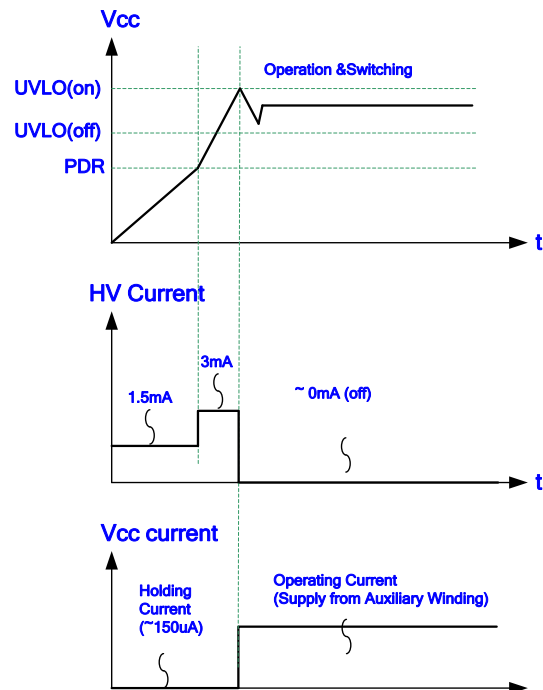

Fig 16.
Please refer to Fig 16. If VCC is below PDR, the charge current is only 1.5mA and the lower charge current can protect IC if the VCC Pin is short to the GND. Once VCC voltage rises up to the UVLO(ON) threshold, HV pin will no longer charge the capacitor. On the contrary, it sends a gate-drive signal to draw supply current for VCC from the auxiliary winding of the transformer. That minimizes the power loss on the start-up circuit successfully.
An UVLO comparator is embedded to detect the voltage across VCC pin and ensure the supply voltage is high enough to power on the LD7791 in addition to driving the power MOSFET. As shown in Fig 16, the hysteresis is